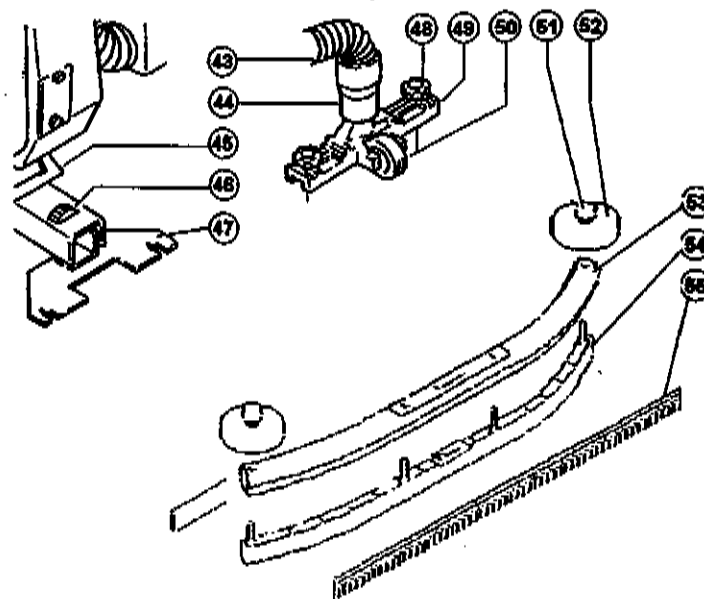

Fig. 4.
- adjust the squeegee and the flow of detergent solution as required via the controls (fig. 4, N°. 45 and N°. 46; fig. 2, N°. 4);
Swapping the blades (for references see fig. 4):
Replacing the blades (for references see figure 4):
- clean the suction pipe (fig. 4, N°. 43);
| | * There is an obstruction in the suction pipe (fig. 4, N° 43) | * Unclog the pipe |
| | * The F7 brush motor fuse has blown (only for battery-operated model) | * Replace the 60A fuse (fig. 4, N°: 31) above the brush motor |